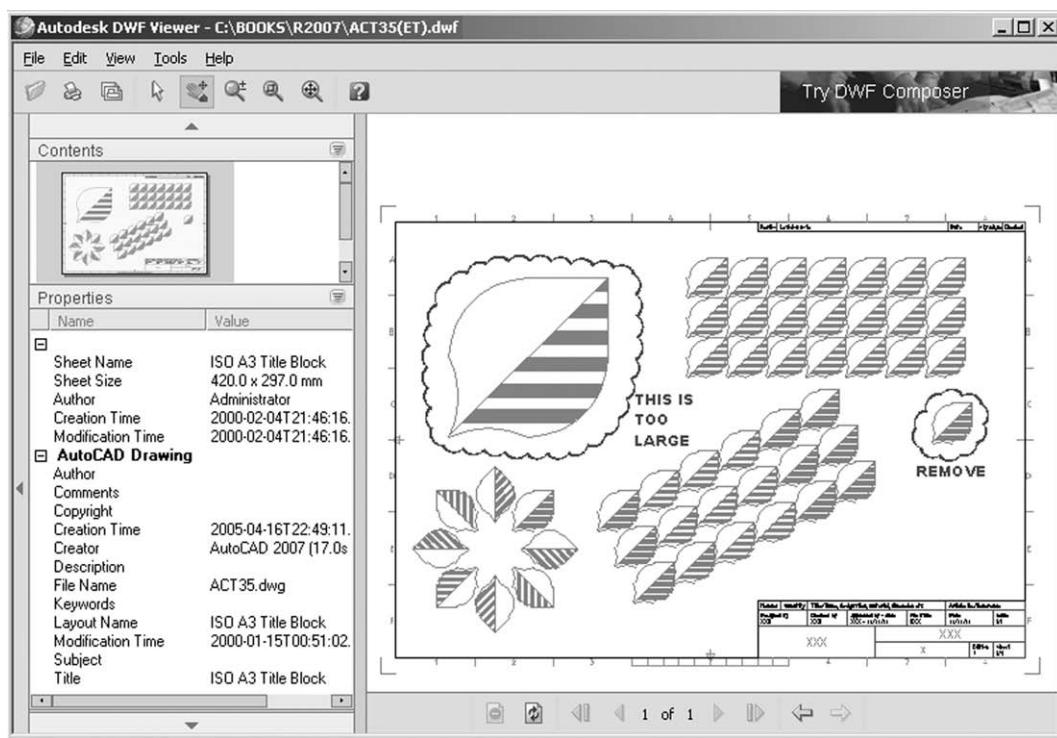

Figure 37.1 The AutoDESK DWF Viewer with the opened ACT35(ET).dwf file displayed and markups added.
2. with layer text current, add revision cloud/s and text using Figure 37.1 as a guide.
and	DWF Viewer screen will display the saved ACT35(ET).dwf file – Figure 37.1.